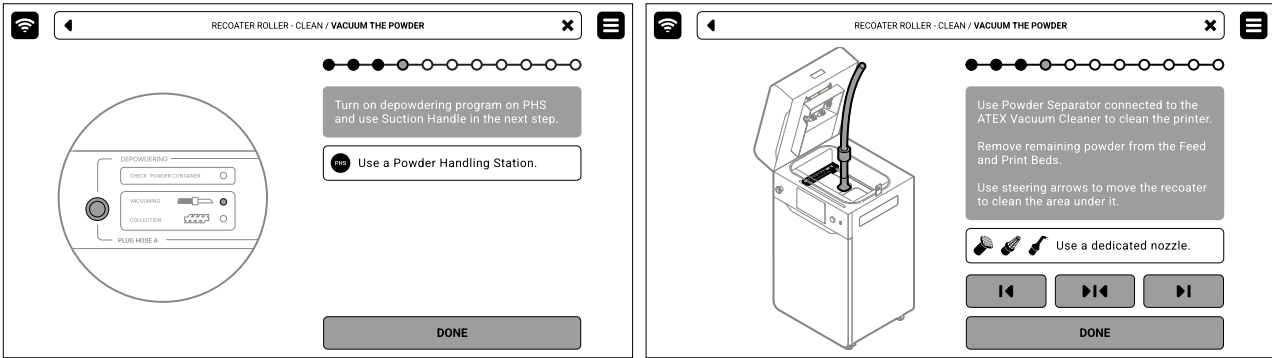

Fig. 12.57 Use PHS or Powder Separator with ATEX vacuum cleaner to clean the print chamber.
9. Use the PHS with Suction Handle (depowdering program) or the Powder Separator connected to the ATEX Vacuum Cleaner. Remove remaining powder from the Print and Feed Beds. Use steering arrows to move the Recoater to clean the area under it (fig. 12.57).